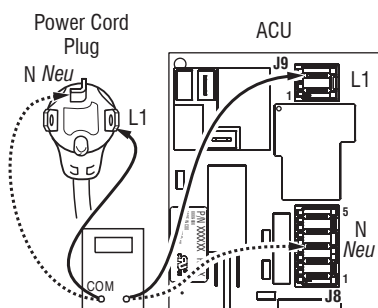

Figure 4c - Plug-to-terminal connections for electric dryer
4. With an ohmmeter, check the continuity from L1 and N plug terminals of the power cord to the terminals for L1 and N on the ACU. See figure 4c.